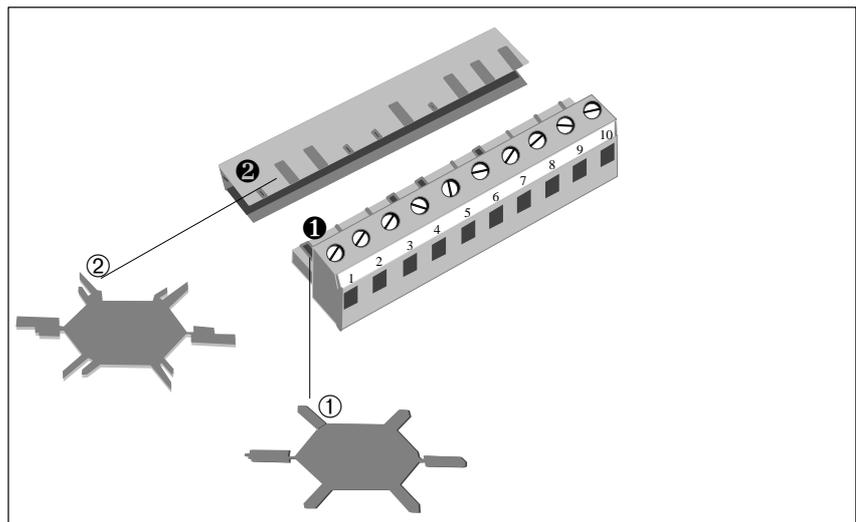

Figure 2-12 Preventing Insertion of the Wrong Connector
**Keying Connectors** With the solid keys ① and the profile keys ② (see Figure 2-12) you can configure a connector so that it cannot be inserted in the wrong receptacle without having to sacrifice a pin. Follow the steps below:
1. Insert solid keys ① into the grooves on the connector ❶.
2. Insert the profile keys ② into the cutouts on the housing ❷.